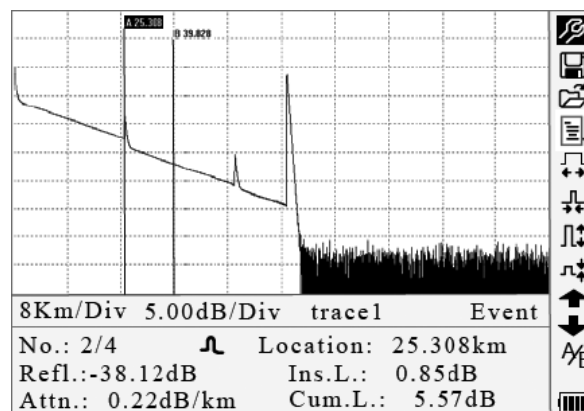
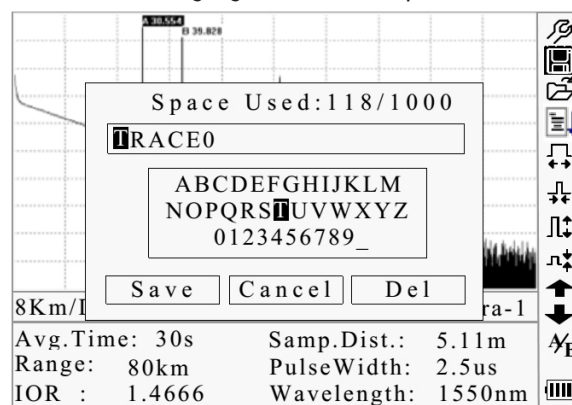
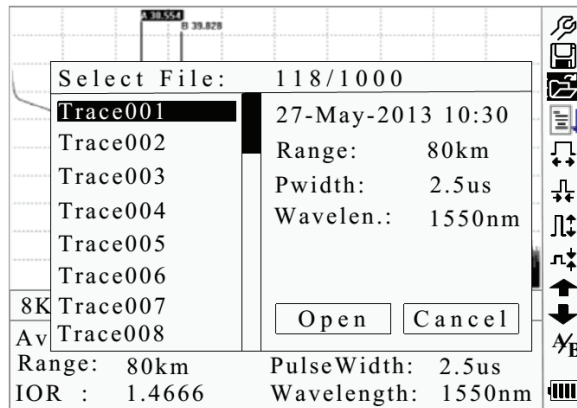

Figure 4-4. Trace Measurement
Figure 4-6. Save a Trace
Figure 4-7. Browse Saved Traces
Note: After a certain period of time, the trace displays on the GUI. The trace in the figure below is a trace during measurement, which will be refreshed for every certain period of time to demonstrate the whole process in realtime. But at the end of measurement the trace will be complete, as shown in Figure 4-4.
Under GUI (Figure 4-4) press  and the items in the information window will display in this order: measurement parameters → analysis information → events list → marker A/B information → fiber information → measurement parameters.
Under GUI (Figure 4-4) press  until the events list information appears in the information window.
Under GUI (Figure 4-4) use  and  to highlight A/B, and then press Enter to switch between marker A/B.
Under GUI (Figure 4-4) press  to switch information window to marker A/B information.
1. Under GUI (Figure 4-4) use  and  to highlight , and then press Enter to zoom out the trace horizontally.
Under GUI (Figure 4-4) use  and  to highlight , and then press Enter to zoom out the trace vertically.
1. Under GUI (Figure 4-4) use  and  to highlight , and then press Enter to zoom out the trace vertically.
Under GUI (Figure 4-4) use  and  to highlight , and then press Enter to zoom in the trace vertically.
1. Under GUI (Figure 4-4) use  and  to highlight , and then press Enter to enter (Figure 4-6).
1. Under GUI (Figure 4-4) use ▲ and ▼ to highlight , and then press Enter to confirm (Figure 4-7).